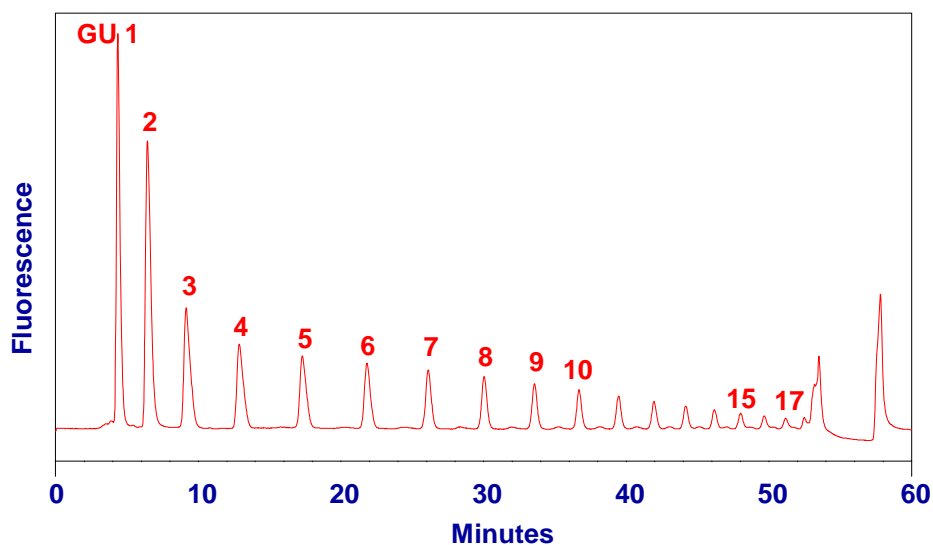

Figure 3: Typical HPLC chromatogram from 2-AB GHP run with method LSN2-30m-Nlink-35% on two 2 x 150 mm LudgerSepN2 columns in series.
- The GHP system suitability profile should be similar to that in figure 3 using the gradient LSN2x2-60m-Nlink-30%.